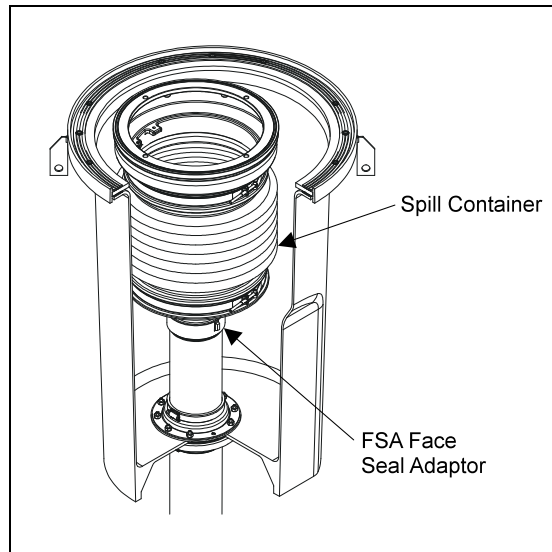

Figure 3
9. Install OPW FSA-400 (Composite Base) or FSA-400S (Cast Iron Base) Face Seal Adaptor onto riser. (Recommend Torque, 4" NPT, 125 ft-lbs min. to 250 ft-lbs max.). Apply pipe dope to FSA. The pipe dope is to be a non-hardening, gasoline resistant, pipe thread seal compound. This is optional for spill containers that are on the vapor lines. (See Figure 3.)
10. Thread on spill container. (See Figure 3.)